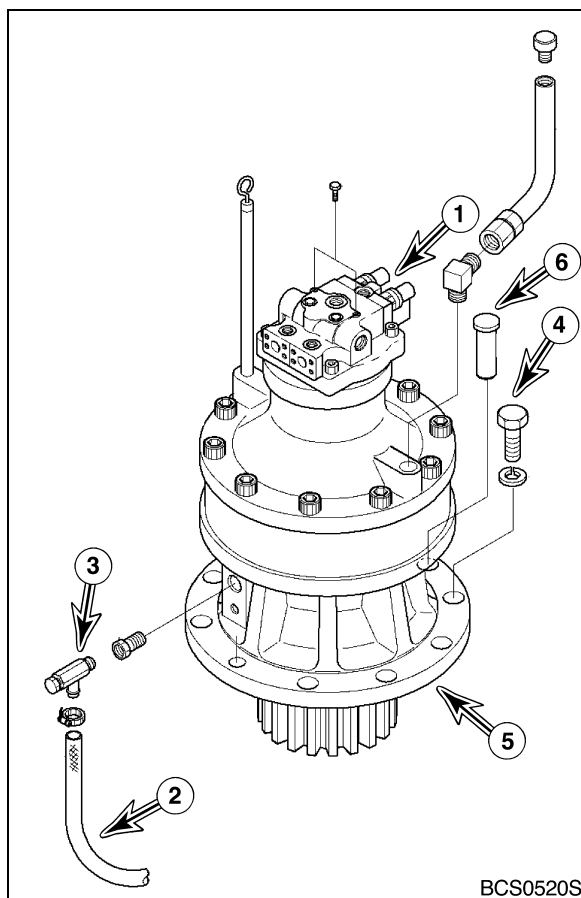

Figure 6
2. Make sure alignment pin (6) is installed in flange of swing reduction gearbox (5).
3. Using a suitable lifting device, sling swing motor (1, Figure 6) and position swing motor and reduction gearbox (5) as an assembly on unit.
4. Install eleven bolts and washers (4, Figure 6) to secure swing reduction gearbox (5) to frame.
5. Connect tube (2) to drain valve (3)
6. Connect hoses as tagged during removal to swing motor (1, Figure 6).